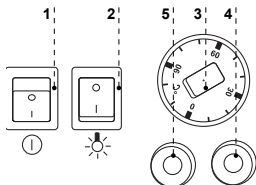

Fig.8 Control panel
- Turn on the main switch Fig.8/1 (p.11), which activates the electric heaters of bain-marie tank
- Set the desired temperature on thermostat control panel Fig.8/3 (p.11)
- Turn on the lighting switch Fig.8/2 (p.11)
Bain-marie is equipped with **SPW-4 water level regulator** used to control and manage tank water level. This regulator is equipped with sound and light signalling Fig.8/4; 5 (p.11) illustrating bain-marie operating condition.
Bain-marie is equipped with mechanical temperature regulator. Temperature sensor is located in the bain-marie tank. We set the desired water temperature in the tank Fig.8/3 (p.11) with the help of regulating knob by turning it and setting in proper position. Turning the knob clockwise increases the set temperature, and turning it in the opposite direction causes the decrease of temperature. Turning the knob left, until it reaches the final position turns off the heaters, despite the fact that the power supply is activated.